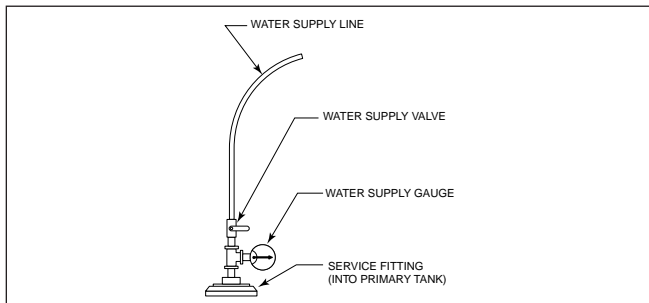

FIGURE 5-1
5.2.2. Connect the water supply line to the test manifold as shown in FIGURE 5-1.
6.1.3. Connect the water supply line to the test manifold as shown in FIGURE 5-1.